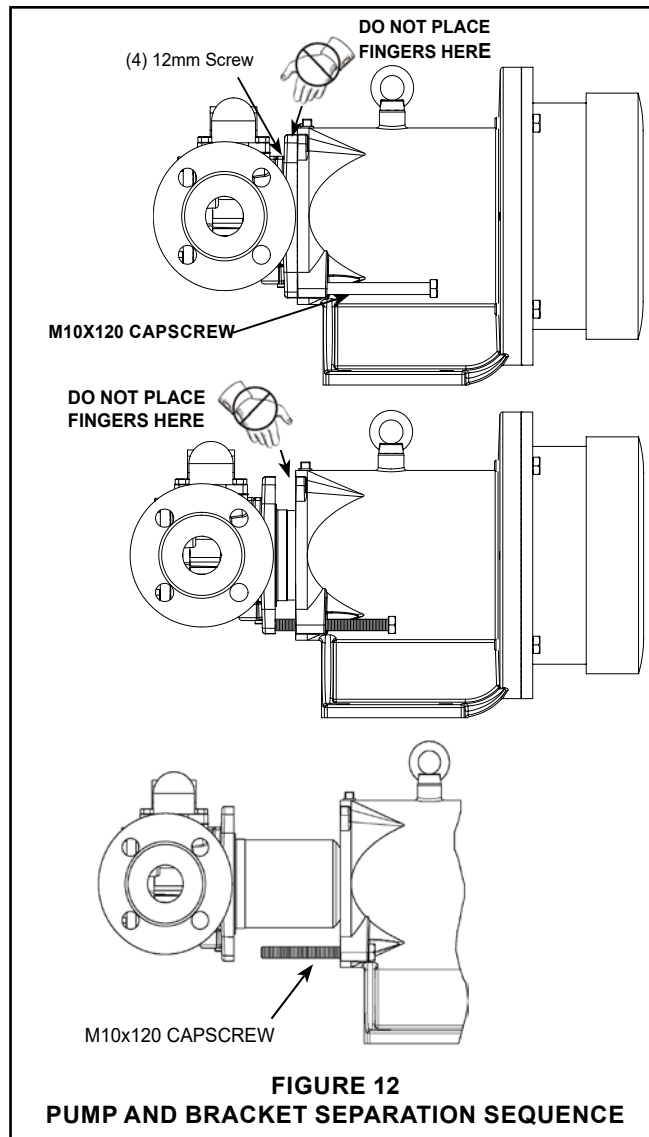

FIGURE 12
1. Remove the piping to the ports and remove the capscrews securing the pump to the bracket. Support the pump with an overhead hoist if possible. Use the M10 x 120 capscrew in the bracket to separate the inner magnet from the outer. (See Figure 12).